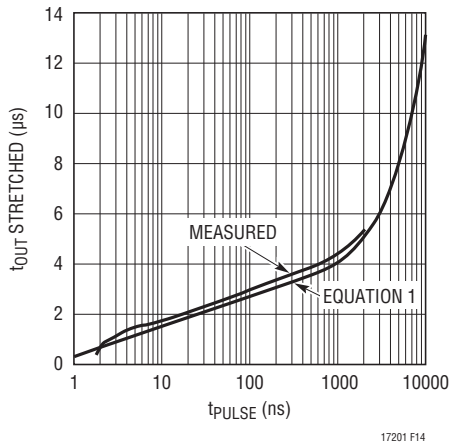

Figure 14. Log Pulse Stretcher Output Pulse vs Input Pulse
The circuit topology itself is extremely fast, limited theoretically only by the speed of the diode, the capture time constant τ₁ and the pulse source impedance. Figure 14 shows results achieved with the implementation shown, compared to a plot of Equation (1). The low end is limited by the delivery time of the upstream comparators. As the input pulse width is increased, the log function is constrained by the asymptotic RC response but, rather than becoming clamped, becomes time linear. Thus, for very long input pulses the third term of Equation (1) dominates and the circuit becomes a 3μs pulse stretcher.
in the two output pulse widths is the per-octave response of your circuit (see Equation (3)). Shorter cable length differences can be used to get a plot of circuit performance down to 1.5ns (if any), which can then later be used as a lookup reference when you have moved from quantifying the circuit to using the circuit. (Note there is a slight aberration in performance below 10ns. See Figure 14.) As a final check, feed the circuit with identical cable lengths and check that it is not producing any output pulses.
This circuit has an ultimate sensitivity of better than 14mV with 5ns to 10ns input pulses. It can even detect an avalanche generated test pulse of just 1ns duration with sensitivity better than 100mV.⁶ It can detect short events better than the coincidence detector of Figure 14 because the one-shot is configured to catch just 100mV of upward movement from C1's V_{OL} , whereas the coincidence detector's 3ns specification is based on a full, legitimate logic high, without the help of a regenerative one-shot.